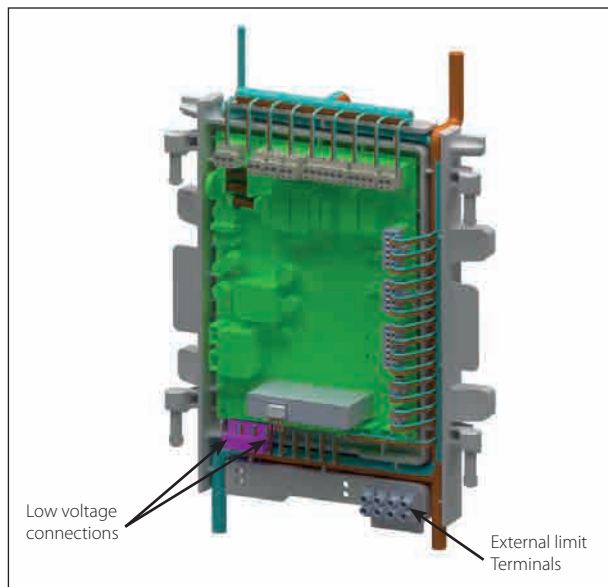

Fig. 33 - Low Voltage Connections
1. Connect the DHW aquastat or temperature sensor wires to low voltage terminals X4-1&2 located at the bottom of the CTRLMax control module as shown in *Fig. 33 on page 49*.
3. Connect the external limit wires to the Manual Reset Limit or Auto Reset Limit low voltage terminals located on the lower right corner of the CTRLMax control module housing as shown in *Fig. 33 on page 49*.
1. Connect the system temperature sensor wires to low voltage terminals X5-3&4 located at the bottom of the CTRLMax control module as shown in *Fig. 33 on page 49*.